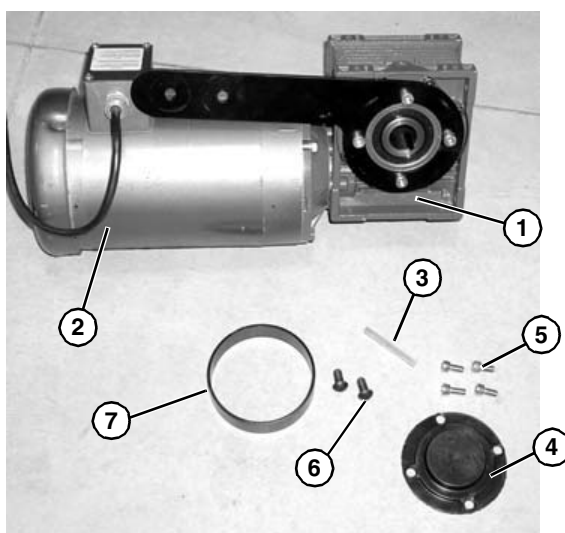

Figure 13
1. Locate components of **Figure 13**.